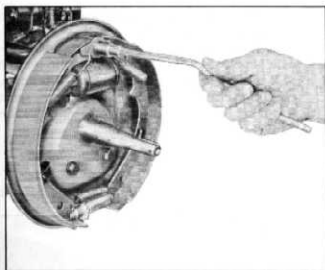

Fig. 21—Unhook Pull Back Spring
4. Unhook brake shoe pull back springs from anchor pin using brake spring remover and replacer, KMO 526 (fig. 21).